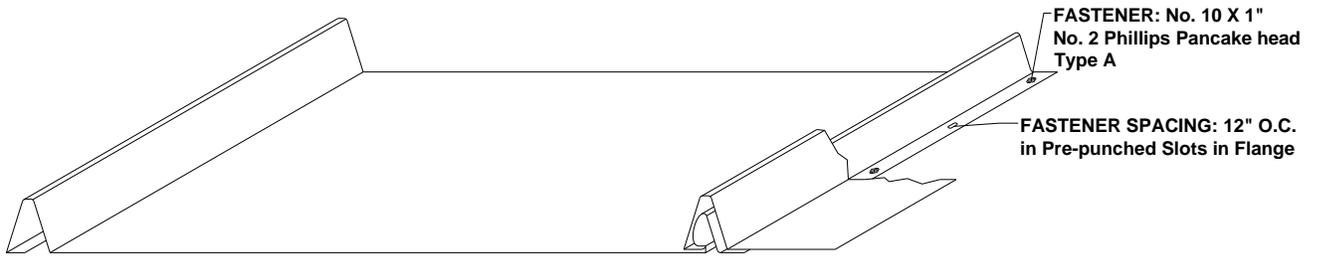

Figure 1: Climaguard Panel Detail
**Panels:** The Climaguard metal roof panels shall be secured to the roof deck as specified in Table 1 and in this section. Refer to Figure 1 for an illustration of the required fastener pattern.